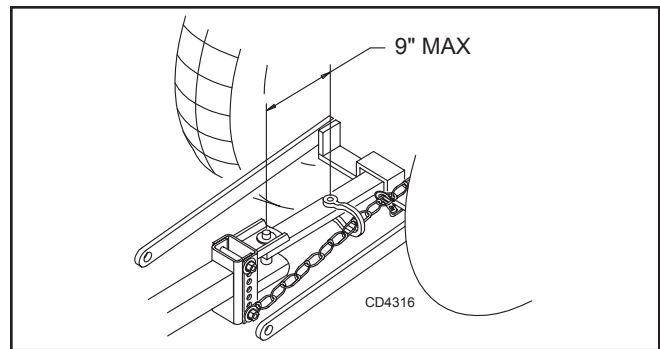

Figure 2. Tow Chain Installation
3. Attach the safety chain to the tractor as shown in Figure 2. Do not allow more slack than the minimum necessary for articulation. Do not use an intermediate support as the primary attaching point.